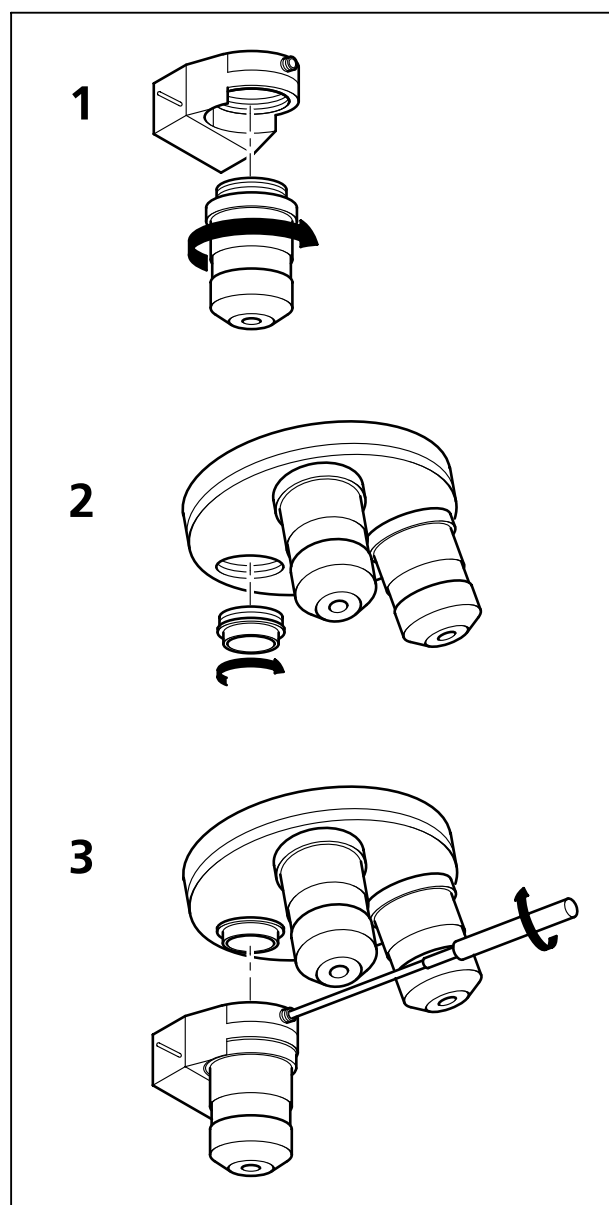

Fig. 8-4 Installation of the Piezo Objective Focusing Device
- Screw in your microscope objective into Piezo Objective Focusing Device (see Fig. 8-4/1).
- Screw the thread-ring into your microscope (see Fig. 8-4/2).
- Easy clamp the Piezo Objective Focusing Device on the thread-ring (see Fig. 8-4/3).